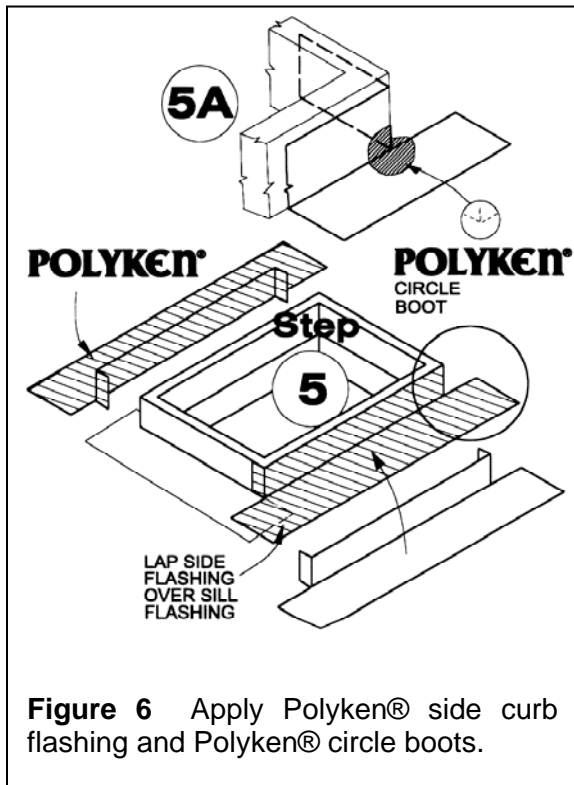

Figure 6 Apply Polyken® side curb flashing and Polyken® circle boots.
Step 5. Apply Polyken® or Nashua® flashing strips along both sides of the skylight opening curb. Lap Polyken® or Nashua® up the vertical leg of curb and across the roof substrate. Lap the bottom ends of side flashing a minimum of 6” over the ends of the sill flashing tape. Extend the top ends a minimum of 6” beyond the top of the curb. Carefully roll the strips and laps flat. Do not tear the vertical-to-horizontal juncture (see Figure 6).
Step 5a. Apply circle boots of Polyken® (approximately 3 in. in diameter) at the upper corners of the skylight curb (see Figure 6). (Follow instructions in the Application Guide – General.)